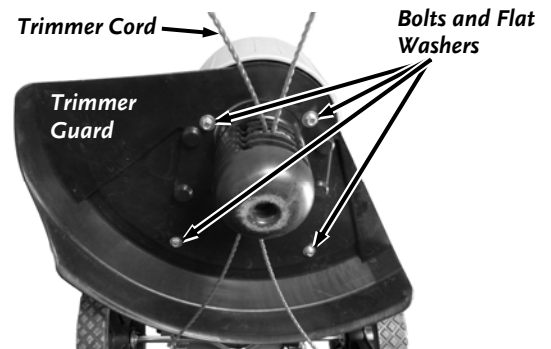

Figure 25
3. Remove the four Trimmer Guard Bolts and Flat Washers with a 3/8" Wrench. Remove the Trimmer Guard (**Figure 25**).
The Belt must be installed on the inside of the guide Pin as shown in figure 25. If it is not installed on the inside the Trimmer Head will not function correctly..
12. Position the Trimmer Guard and secure with the four Bolts and Flat Washers using the 3/8" Wrench (**Figure 25**).